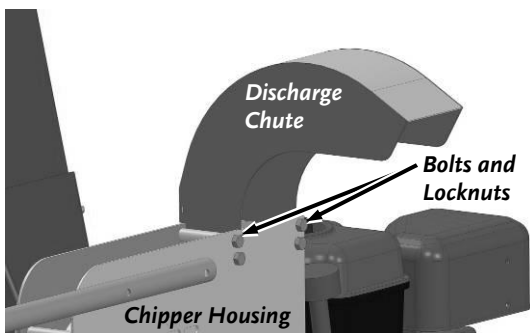

Figure 19
2. Remove the Bolts and Locknuts from the Discharge Chute (**Figure 19**).
1. Position the Discharge Chute onto the Chipper Housing and secure with two Bolts and Locknuts using 1/2" wrenches (**Figure 19**).